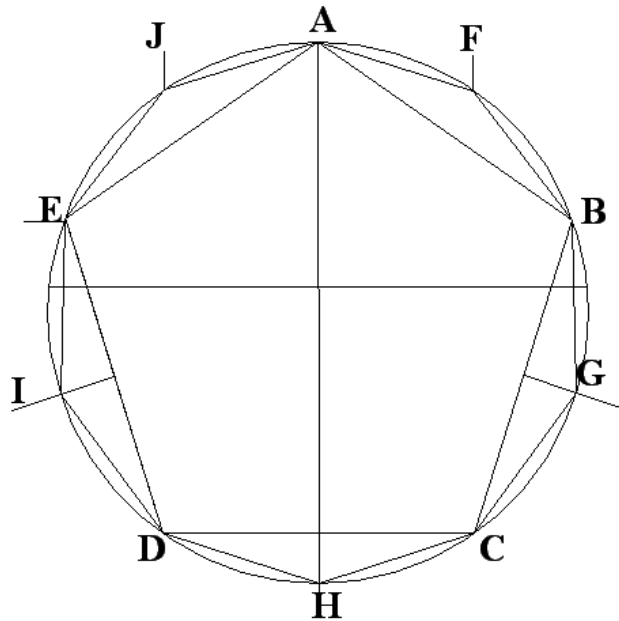

Figure 9.18
2. When pentagon ABCDE is complete, (see **Figure 9.18**), find the mid-point of each one of the five sides by drawing perpendiculars to them, cutting through each arc of the circle at FGHIJ. This can also be done by measuring the lengths of the chords and dividing by two. Connect points AF, FB, BG, GC, CH, etc. with chords to complete the decagon.